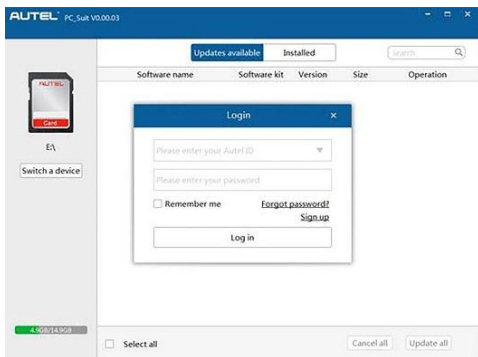

Figure 10.1
4. Run the **Maxi PC Suite** . Wait for the Log In window to pop up. (Figure 10.1)